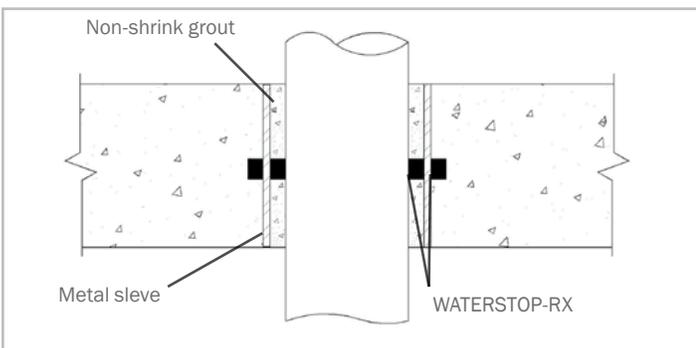
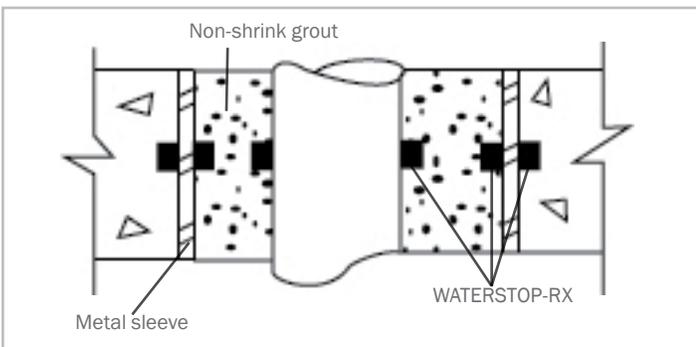

Figure 4.4 – Sleeved Pipe
Figure 4.5 – Sleeved pipe (excessive gap)
**Sleeved Pipe Penetrations:** Install WATERSTOP-RX around the outer diameter of the sleeve. Install another WATERSTOP-RX strip between the sleeve’s inner diameter and the pipe, contacting both surfaces continuously (see Figure 4.4). When there is an excessive gap between the inner diameter of the sleeve and the pipe, it may be necessary to install two separate WATERSTOP-RX strips – one on the inner diameter and the other on the pipe. Then completely fill the void area between the sleeve and the pipe with non-shrink grout (see Figure 4.5). Consult manufacturer for recommendations on conditions not represented herein.